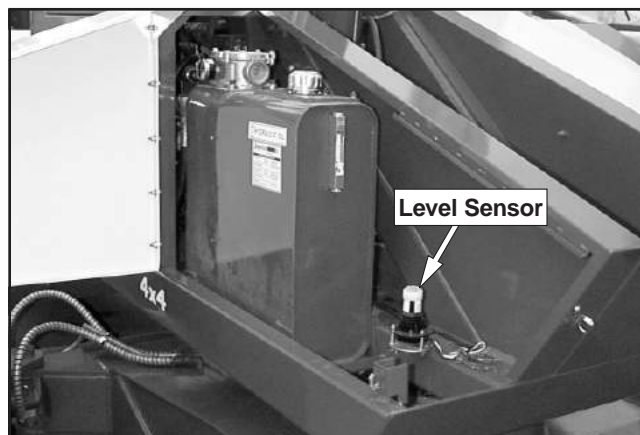

Figure 7.17—Level Sensor
4. Open the door on the left side of the turntable to access the level sensor (refer to Figure 7.17).